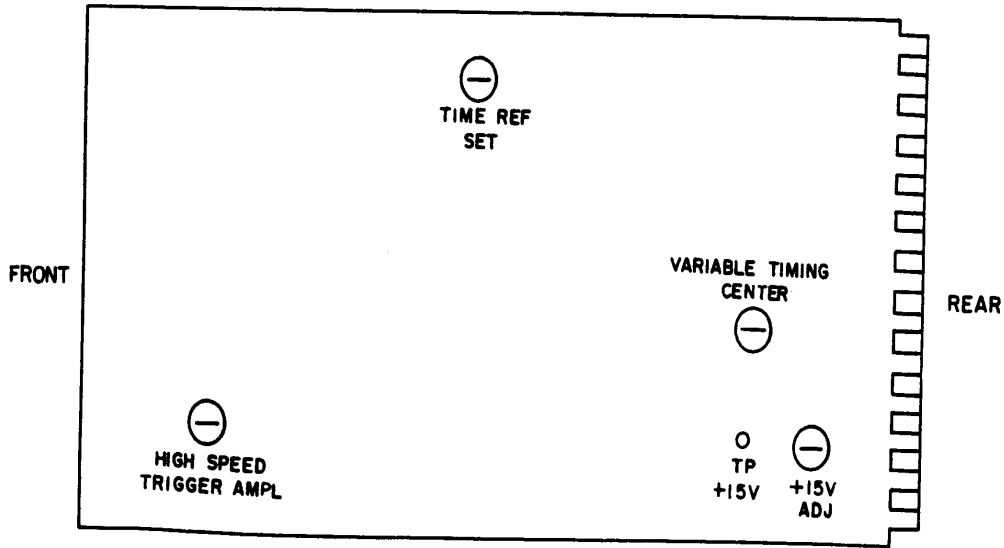

Figure 1. Main circuit board - component locations.
b. Adjustments. Adjust TIME REF SET (fig. 1) until frequency counter indicates 1.00000 MHz, or if required, for best intolerance condition on all ranges (R).
(1) Set **MARKER (SEC)** switch to **1m** and pull out **VARIABLE TIMING (OUT)** control.
(2) Adjust **VARIABLE TIMING (OUT)** control fully cw, then fully ccw while noting **VARIABLE TIMING** indication at each limit. If **VARIABLE TIMING** indication at each limit is not at least 7.5, perform **b** below.
(3) Connect frequency counter input to **TI MARKER OUT** using 50Ω feedthrough termination.
(4) Set **MARKER (SEC)** switch to **.1m**.
(5) Adjust **VARIABLE TIMING (OUT)** control for a 0.0% **VARIABLE TIMING** indication. Frequency counter will indicate between 9.99 and 10.01 kHz.
(6) Adjust **VARIABLE TIMING (OUT)** control for a 5.0% **FAST VARIABLE TIMING** indication. Frequency counter will indicate between 10.49 and 10.51 kHz.
(7) Adjust **VARIABLE TIMING (OUT)** control for a 5.0% **SLOW VARIABLE TIMING** indication. Frequency counter will indicate between 9.49 and 9.51 kHz.
(8) Push in **VARIABLE TIMING (OUT)** control.
b. Adjustments. Adjust **VARIABLE TIMING CENTER** (fig. 1) until **VARIABLE TIMING** indication at each limit is at least 7.5 (R).
- (1) Adjust **HIGH SPEED TRIGGER AMPL** (fig. 1) until amplitudes are within 0.1 V of each other (R).
a. Performance Check. Connect multimeter **INPUT HI** to TI TP +15V (fig. 1) and **INPUT LO** to ground. If multimeter indication is not between 14.75 and 15.25 V, perform **b** below.
b. Adjustments. Adjust +15V ADJ (R606) (fig. 1) for a multimeter indication of 15.0 V (R).